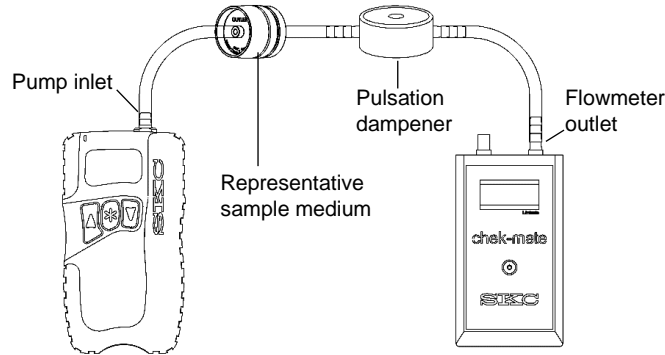

Figure 3. High Flow Calibration Train
- b. **For high flow model**, use flexible 3/8-inch ID tubing and place Pulsation Dampener Cat. No. 375-150 in line between the flowmeter outlet and representative sample medium inlet. If required by the sampler, use a calibration adapter. See Figure 3.